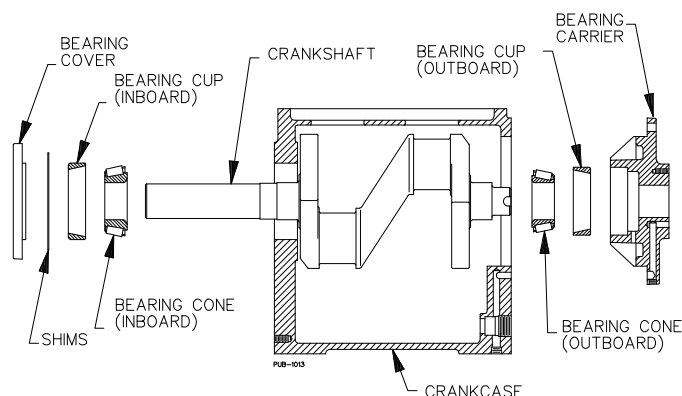

Figure 18 - Bearing Locations
- b. Referring to Figure 18 for the proper orientation, carefully press the inboard bearing cup into the crankcase until it is flush with the outer surface of the crankcase.